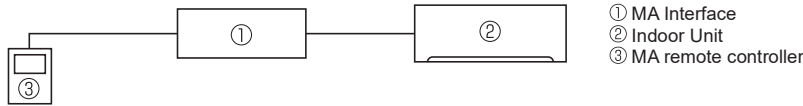

Fig. 1-1
**Use as wired remote controller (Fig. 1-1)**